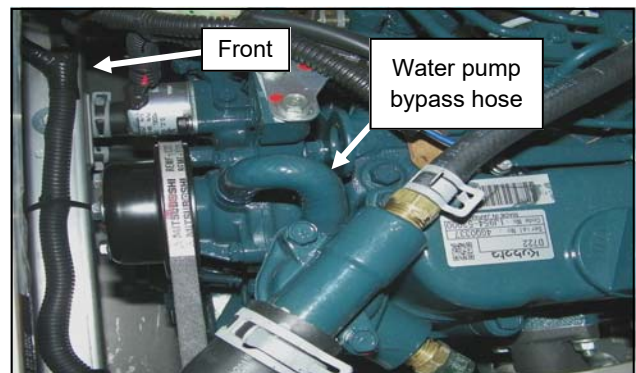

Fig. 5.2
- 5.2 Remove the Water pump bypass hose from the engine using pliers on the spring clamps. See figure 5.2.